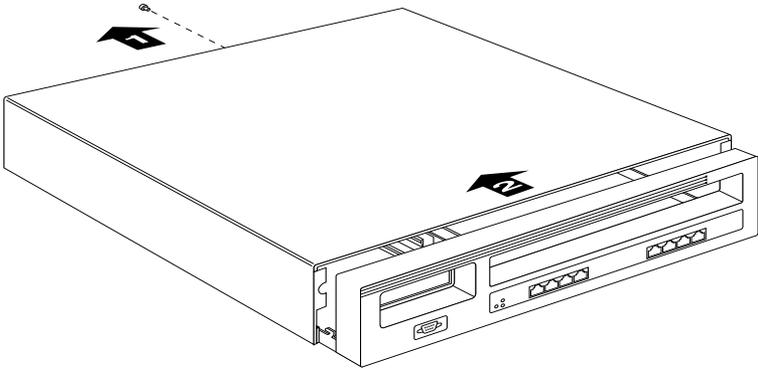

Figure 4: Chassis Top Removal
- b. Lift the cover and slide it off (Figure 4).